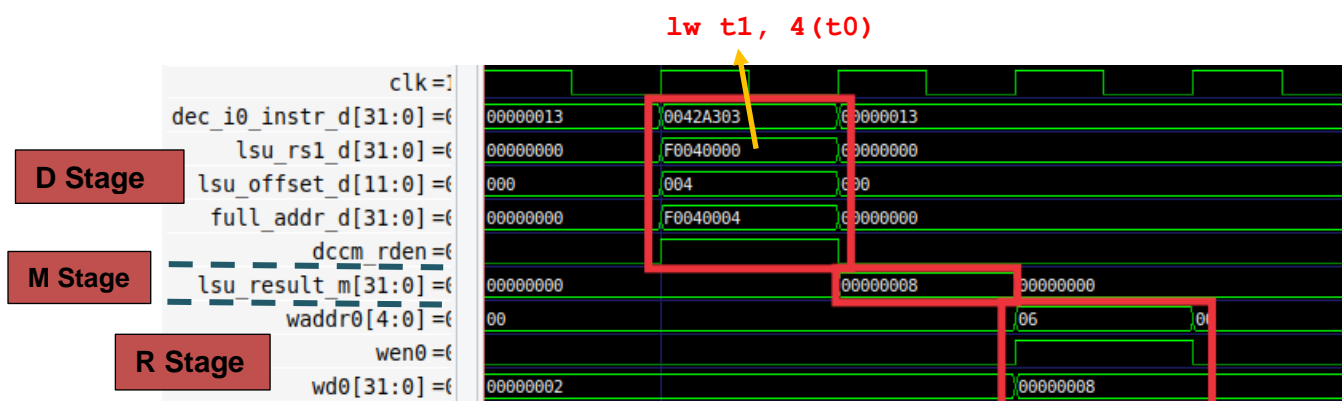
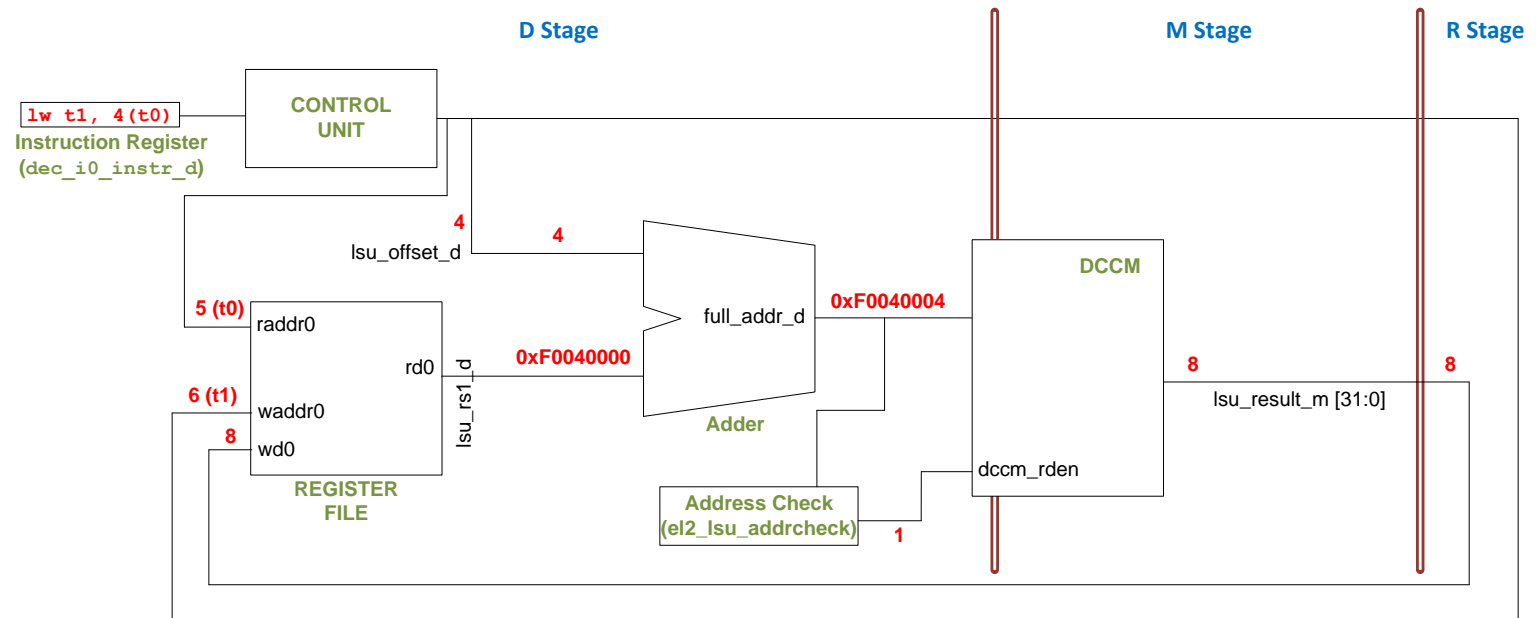

Figure 4. Verilator simulation for example program in Figure 2
Figure 5. High-level view of the `lw` instruction executing in the VeeR EL2 pipeline
Figure 4 shows the execution of the second `lw` instruction for an intermediate iteration of the loop from Figure 2. The signals shown are the ones specified in file: `[RVfpgaEL2NexysA7NoDDRPath]/Labs/Lab13/LW_Instruction_DCCM/commandLine/scriptLoad.tcl`. Note that all iterations are the same: the first load reads the DDCM's first data word (2) into `t1` (x6); the second load reads the DDCM's second data word (8) into the same register (`t1`).
Figure 5 shows a high-level view of the VeeR EL2 pipeline during the execution of the second `lw` instruction. Note that the figure merges the state of the processor in different cycles:
TASK: Replicate the simulation from Figure 4 on your own computer. Follow the steps described in detail in the GSG.
Analyse the waveform from Figure 4 and the diagram from Figure 5 at the same time. The figures include some signals associated with the D, M, and R stages. The values highlighted in red correspond to the second `lw` instruction as it traverses these stages.